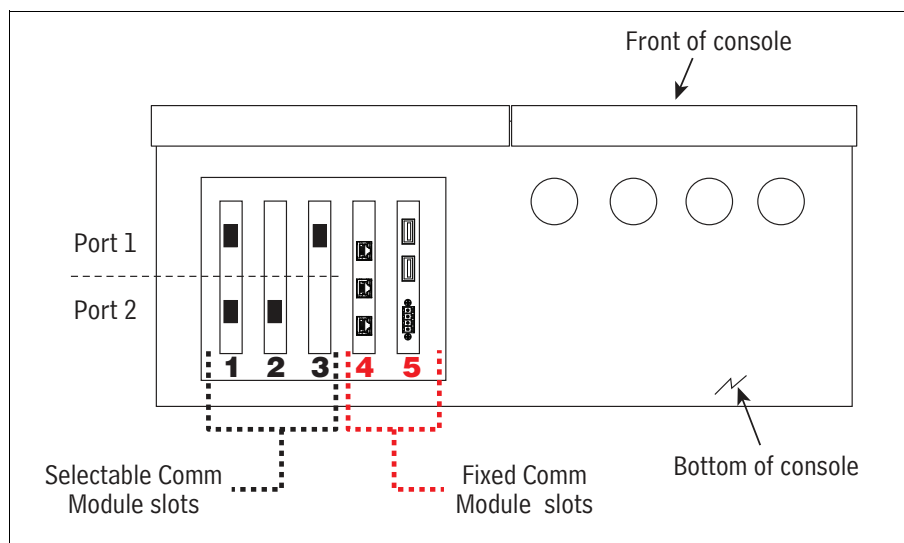
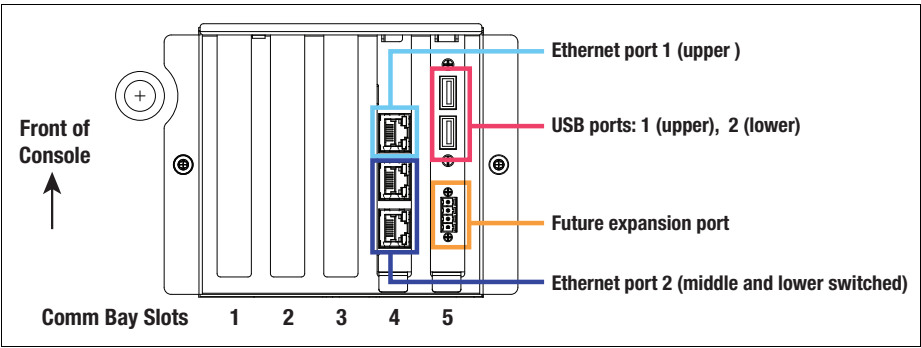

Figure 28. TLS-450PLUS Console - Selectable Comm Modules
Figure 29. TLS-450PLUS Console - Fixed Comm Modules
1. The Comm Bay is divided into 5 slots numbered from 1 to 5 going from left to right. Only slots 1-3 are available for user-selectable Comm Modules (Figure 28). Slots 4 and 5 are fixed and can not be changed (see Figure 29).
User-selectable Comm Port configurations will depend on features ordered. Slots 1-3 (Figure 28) can be used for any combination of Comm Modules found in Table 10 or Table 11 as appropriate.